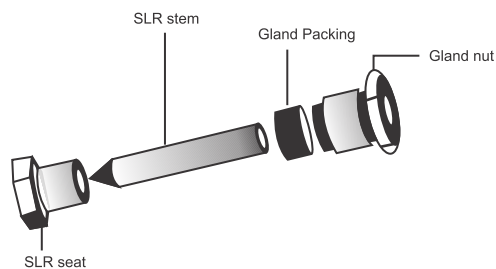

Figure 10: Maintaining the SLR assembly
7.6. Procedure to fit the steam lock release (SLR) assembly:(Refer to Figure 10)
2. Remove the SLR gasket (not shown in the figure 10).